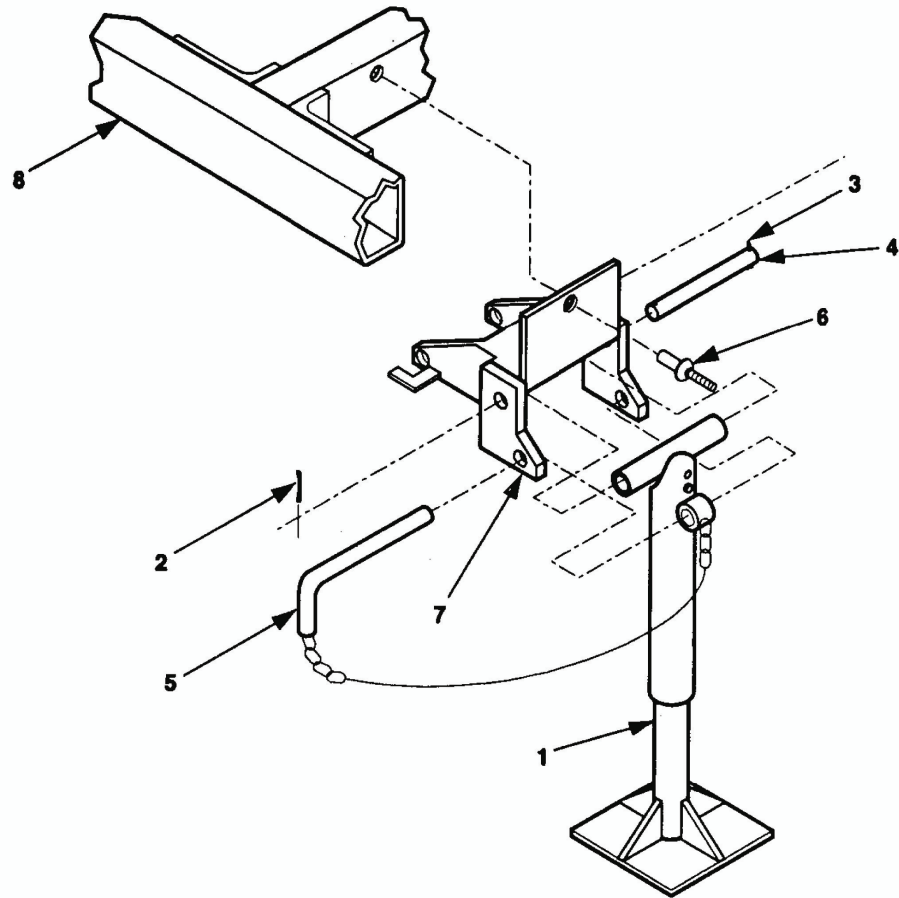

Figure 5-20. Rear Leveling-Support Jack Replacement; LTT Trailer
2. Turn leg base (1, figure 5-20) to take weight off leg prop.
3. Remove either one of two cotter pins (2 or 3) from pivot shaft (4) and discard cotter pin.
4. Hold leg base (1) steady and remove pivot shaft (4) with remaining cotter pin in place.
5. Lift leg base (1) slightly to take weight off retaining pin (5) and remove retaining pin (5). Move leg base (1) and attached parts out of bracket (7).
6. Remove three rivets (6) and bracket (7) from trailer chassis (8).
1. Install bracket (7, figure 5-20) on trailer chassis (8), with three rivets (6)
2. Position leg base (1) and attached parts in bracket (7) and install retaining pin (5).
3. Position leg base (1) and install pivot shaft (4).
4. Install new cotter pin (2 or 3) in pivot shaft (4).